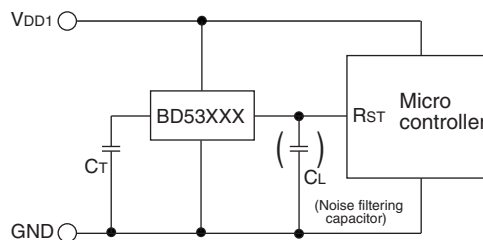

Fig.11 CMOS output type
- ② When the power supply of microcontroller and that of reset is same (V_{DD1}). A product with CMOS output (BD53XXG/FVE series) can be used as shown in Fig.11. Or if R_L is provided with open drain output (BD52XXG/FVE series) on the V_{DD1} side, it can be used.